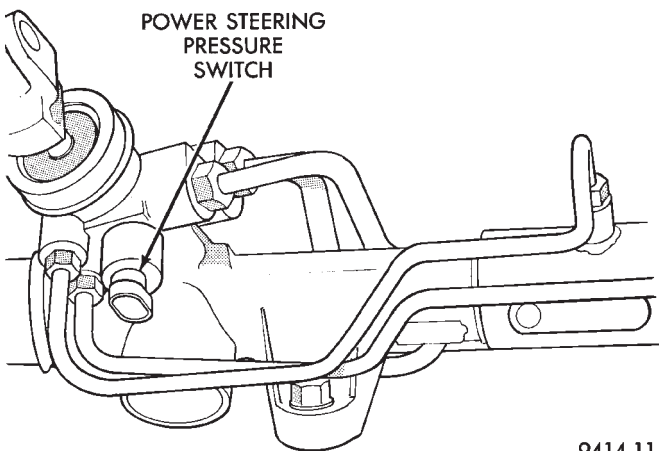

Fig. 53 Power Steering Pressure Switch
(20) Check electrical connection at the power steering pressure switch on the power steering gear housing (Fig. 53).